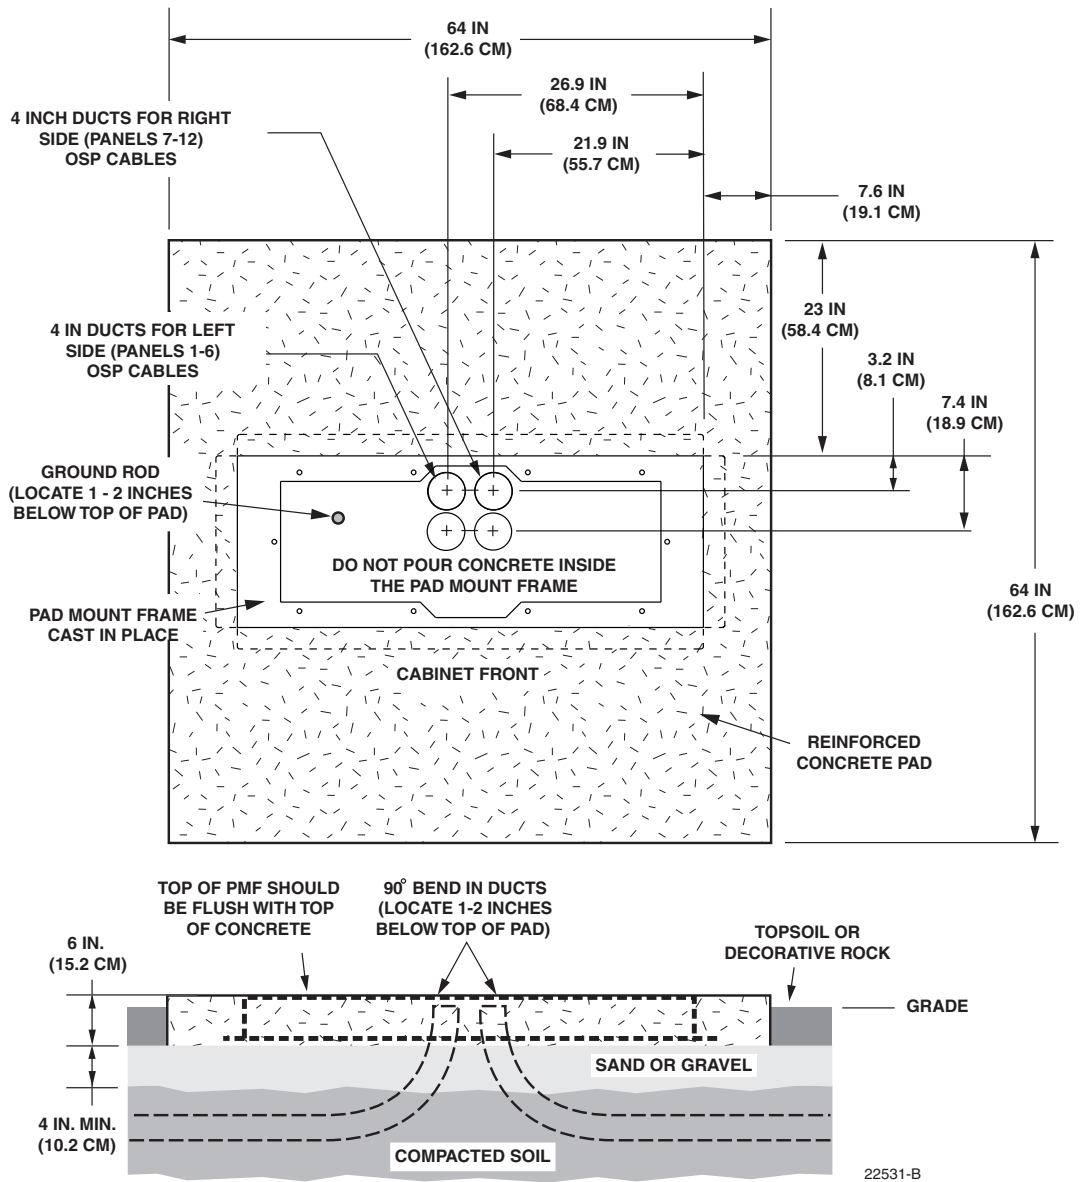

Figure 9. Constructing the Concrete Pad for the 864 Cross-Connect Cabinet
Prepare a base for the concrete pad that meets all local code requirements. The base must have a footing of 4 to 6 inches (10.2 to 15.2 cm) of sand or gravel (per local practice) on firmly compacted soil. Refer to the construction diagram in Figure 9 for details.
2. Locate the PMF as shown in the construction diagram (see Figure 9). When installed, the top surface of the PMF must be flush and level with the top of the concrete pad.
Install a grounding system (not provided) that meets all local electrical codes. Check local codes for grounding system installation, use of clamps, wire size, and any other grounding requirements. Typically, #6 AWG copper wire is used for the ground wire. If the grounding system includes a ground rod, install the rod (see Figure 9) within the PMF opening at the indicated point. When installed, the top of the rod should be located 1 to 2 inches (2.54 to 5.08 cm) **below** the top of the finished concrete pad. Leave sufficient slack in the grounding wire to allow it to be routed into the cabinet after the cabinet is mounted on the pad.